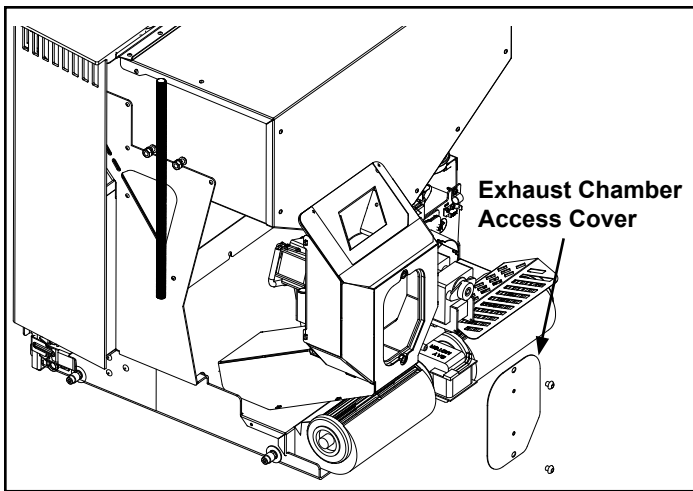

Figure 2.9
6. Remove the exhaust chamber access cover on the right rear of the insert. Figure 2.9.